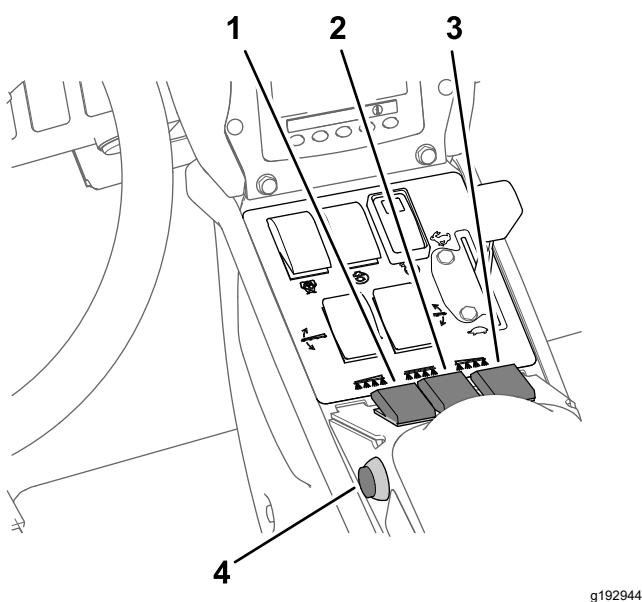

Figure 44
7. Set the spray section switch(es) to the ON position (Figure 44).
10. Drive at the desired speed and then set the master section switch to the ON position to begin spraying (Figure 44).
3. Set the master section switch to the OFF position; refer to Figure 44 in Spraying in the Application Rate Mode \(page 37\).
7. Set the individual section switches, as needed, to the ON position; refer to Figure 44 in Spraying in the Application Rate Mode \(page 37\).
9. Drive at the desired speed and then set the master section switch to the ON position to begin spraying; refer to Figure 44 in Spraying in the Application Rate Mode \(page 37\).